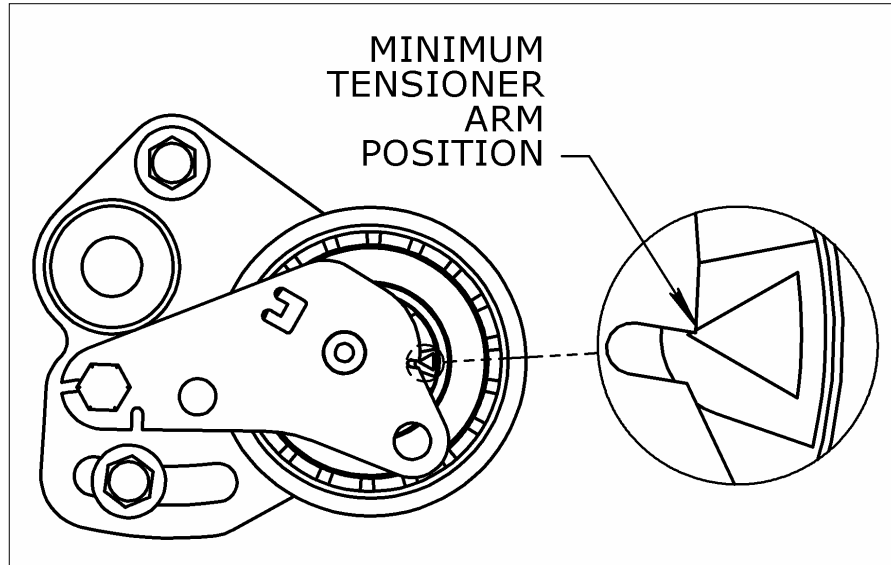

Figure 6: Tensioner is Re-adjusted to the
- If the indicator mark on the arm aligns within the **Maximum/Minimum Position** on the front plate, the installation is complete (Figures 6 and 7).
15. Fit the tensioner installation tool and adjust the whole tensioner assembly until the indicator mark on the arm aligns within the **Maximum/Minimum Position** on the front plate (Figures 6 and 7).